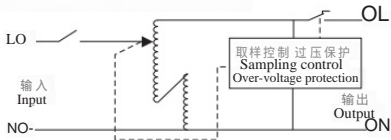

Fig.3 Single-phase 0.5kVA-10kVA electrical schematic
2.4.2 Single-phase 0.5kVA~10kVA electrical principle block diagram is shown in Figure 3.